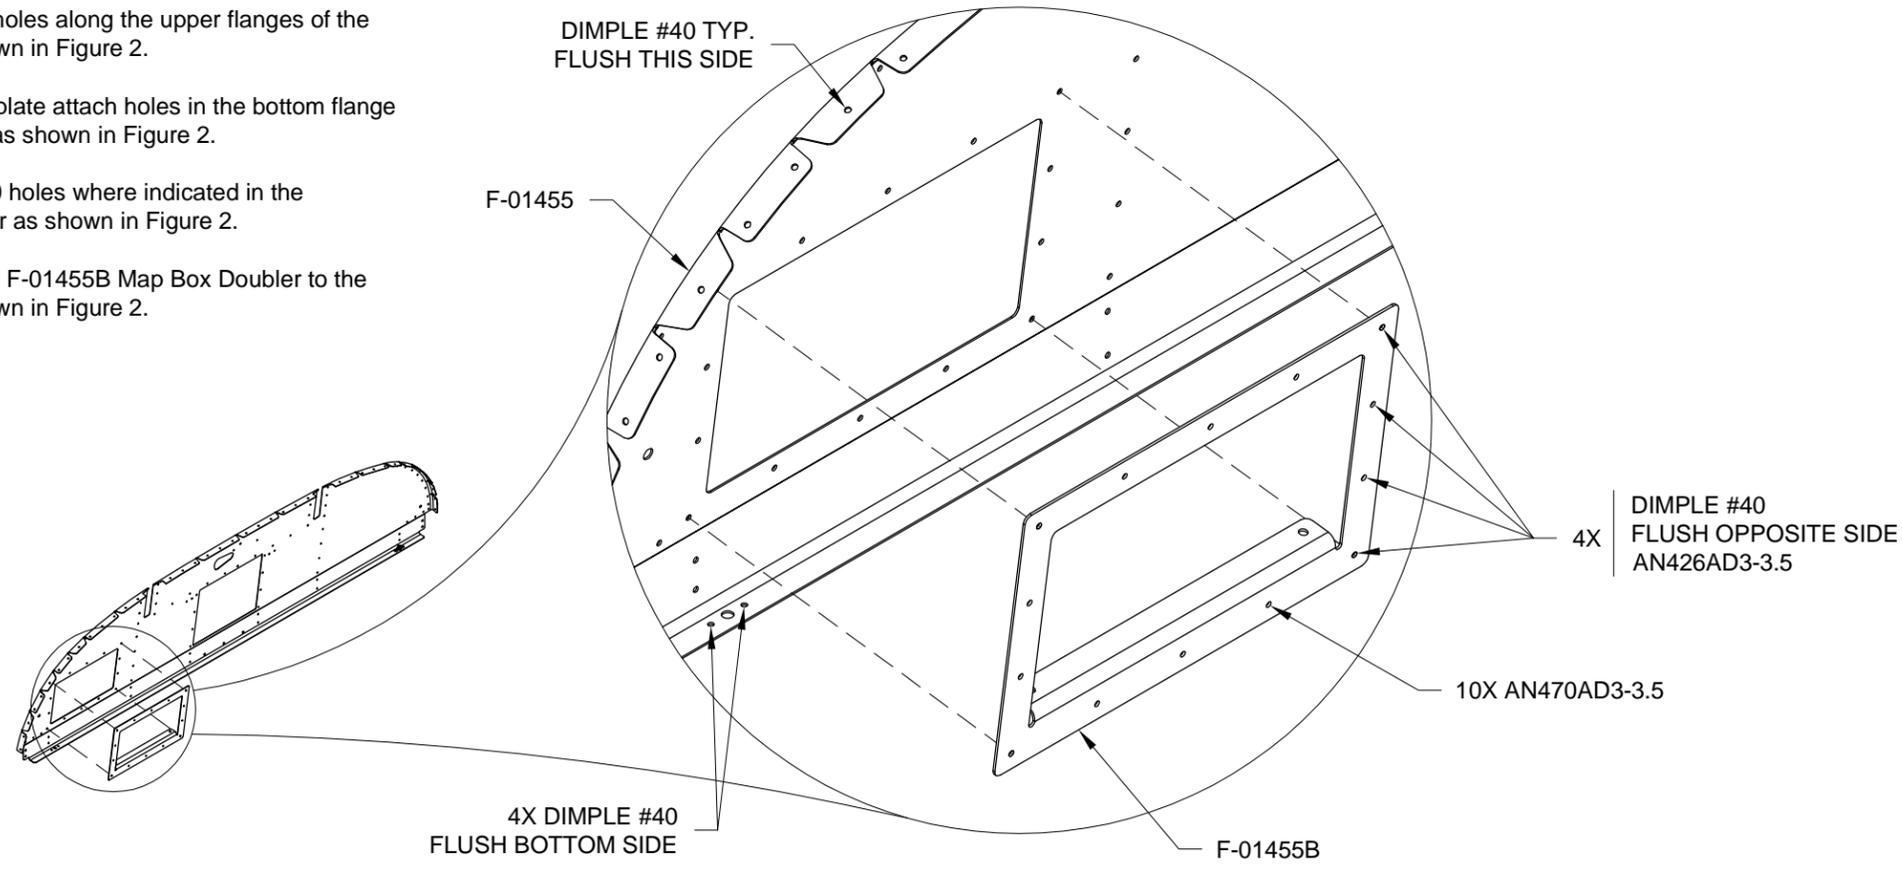

FIGURE 2: INSTALL DOUBLER
Step 2: Dimple all the #40 holes along the upper flanges of the F-01455 Sub Panel as shown in Figure 2.
Step 3: Dimple the #40 nutplate attach holes in the bottom flange of the F-01455 Sub Panel as shown in Figure 2.
Step 4: Dimple the four #40 holes where indicated in the F-01455B Map Box Doubler as shown in Figure 2.
Step 5: Cleco then rivet the F-01455B Map Box Doubler to the F-01455 Sub Panel as shown in Figure 2.